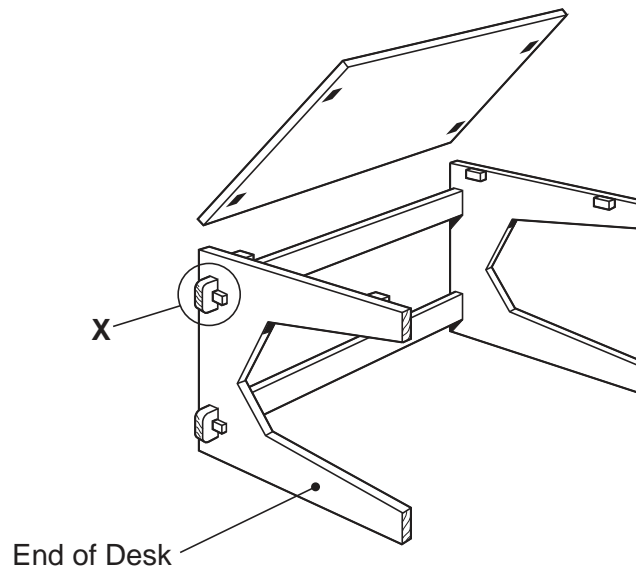

Fig. 6
- 6 Fig. 6 shows a design for a desk, most of which is made from MDF (Medium Density Fibreboard).